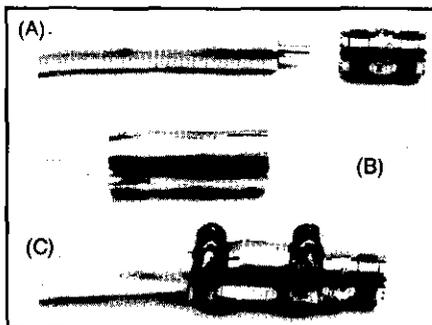

Fig 11—WB5GDB's Hardline connector (see text for explanation.)
□ Many hams would use rigid coaxial cable (Hardline) in their stations if not for the hard-to-get and often expensive connectors that it requires.3 Here is a way to fit 1/2-inch Hardline with a PL-259 for about \$3. Refer to Fig 11 while reading these instructions.